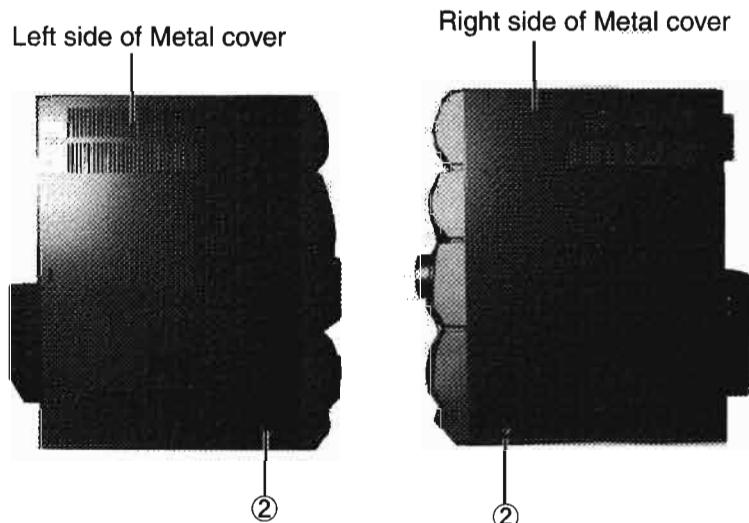

Fig.2
2. Remove the six screws ② fastening the metal cover to the side panel of the main unit.(See Fig.2)